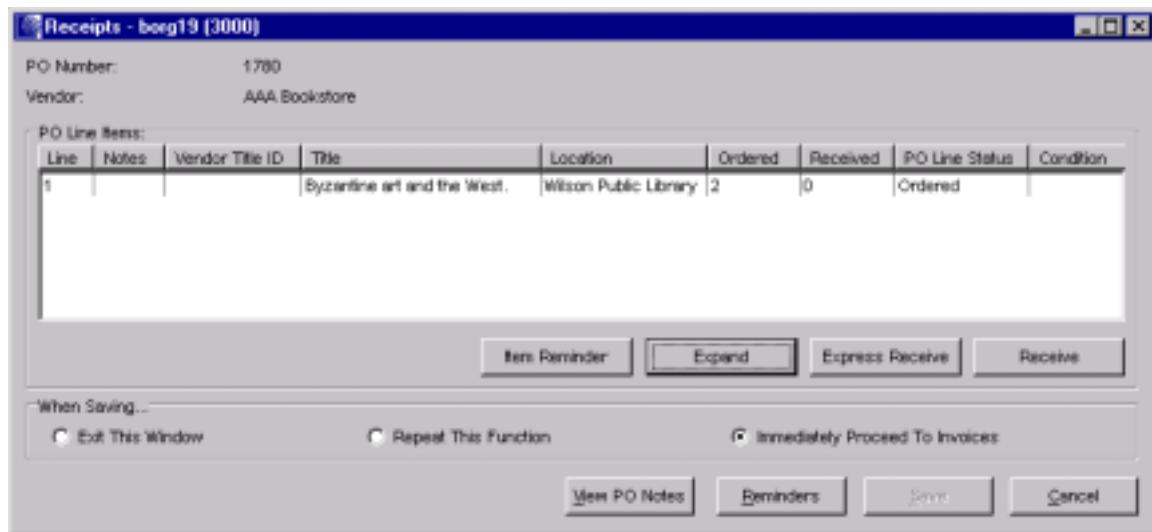

Figure 6-3. Receipts Window – Add/Update Mode
- If the purchase order has been transmitted, the Receipts window (*Figure 6-3*) will appear. If priority purchase order header notes exist, a Messages box will appear simultaneously to inform you of that.